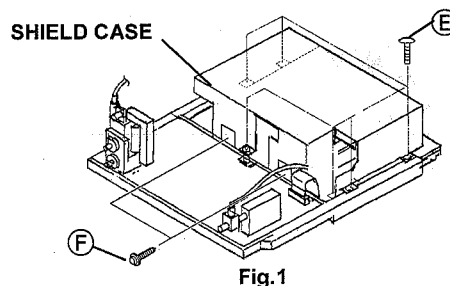

Fig.1
2. Remove the 8 screws marked (A) and 1 screws marked (B) as shown in Fig.1.
3. After removing the screw marked (C), push the hook of the back cover and remove the back cover. Pull out the power cord clamp horizontally.
1. Remove the 4 screws marked (D) as shown in Fig.1.
1. Remove the 6 screws marked (E), and the 2 screws (F) marked (Fig.1)